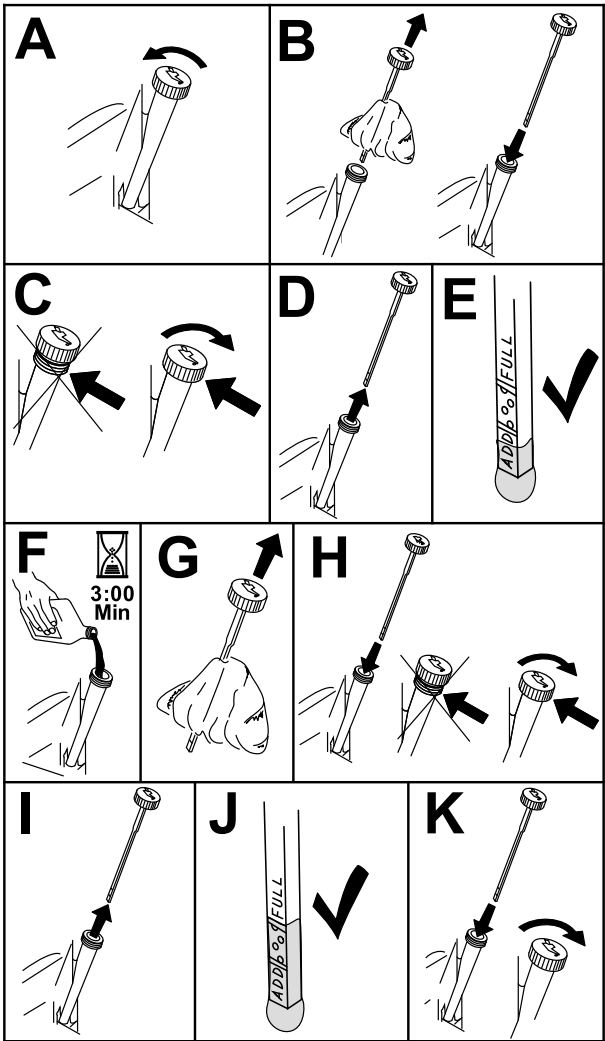

Figure 33
- 3. To keep dirt, grass clippings, etc., out of the engine, clean the area around the oil-fill cap and dipstick before removing it (Figure 33).